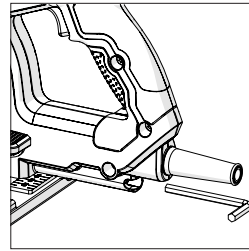

Fig. 1
- Locate the supplied Blade Change Hex Key, which is housed in the onboard storage facility **(18)** **(Fig.1)**